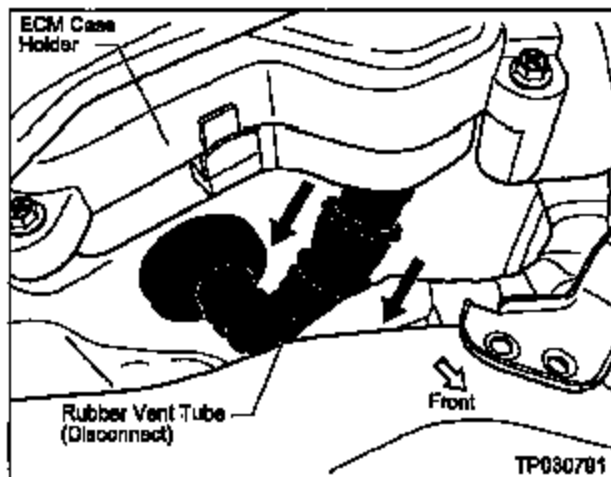

Figure 4
3. Disconnect the Rubber Vent Tube from the ECM Case Holder (see Figure 4).